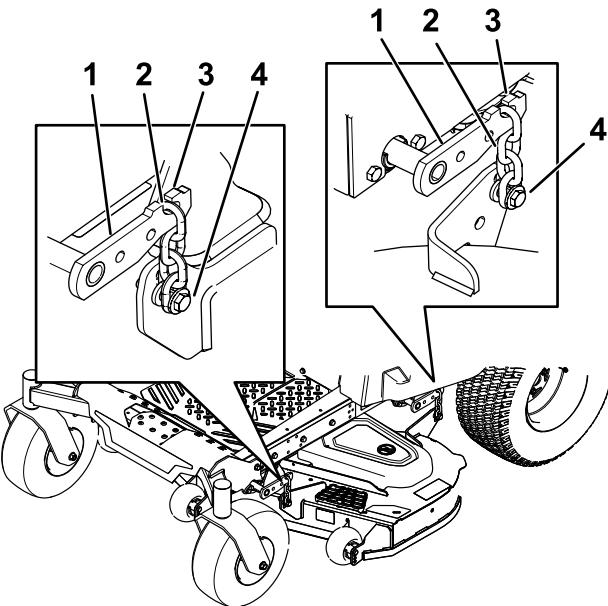

Figure 75
5. Loosen the adjustment bolts on all 4 corners so that the deck is sitting securely on all 4 blocks (Figure 75).
6. Ensure that there is tension on all 4 chains (Figure 75).
7. Tighten the 4 adjustment bolts (Figure 75).